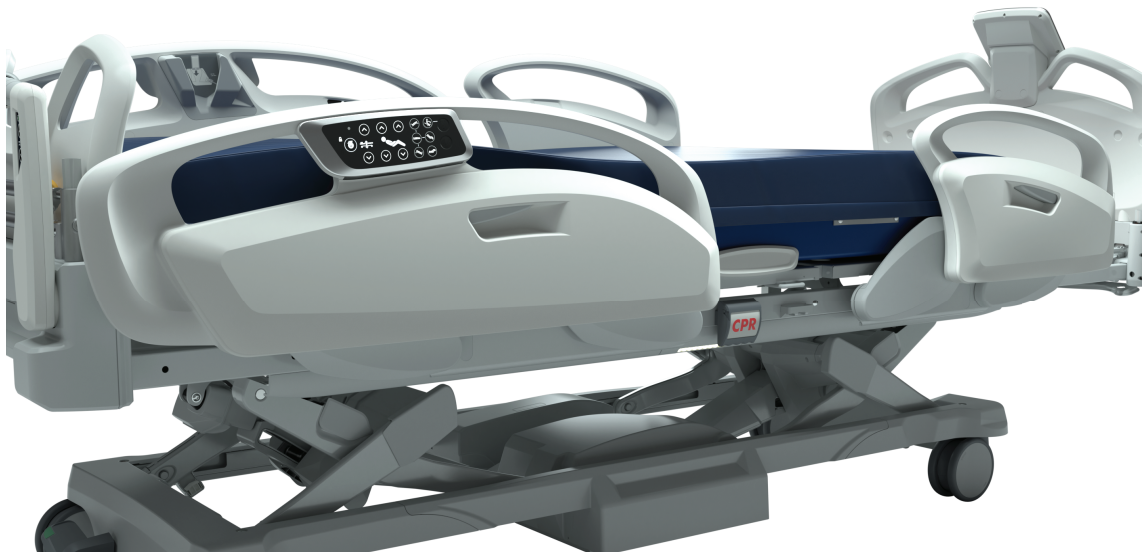

Figure 18 – Siderail intermediate position
- To raise the siderail to the intermediate position, grasp and rotate the siderail up from the lowest position until you hear the siderail click (Figure 18).
- To lower the siderail to the intermediate position, press the siderail release (N) (*Product illustration* (page 11)) and rotate the siderail forward until the siderail stops at the intermediate position (Figure 18).